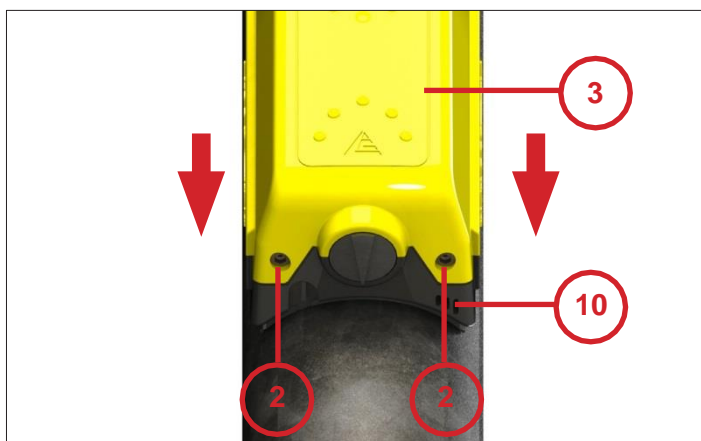

Fig. 18
- Loosen the 2 Phillips head screws (14) to set the vibration strength.
- Check that the vibrator seal fits and refit the top part of the device Fig. 18).